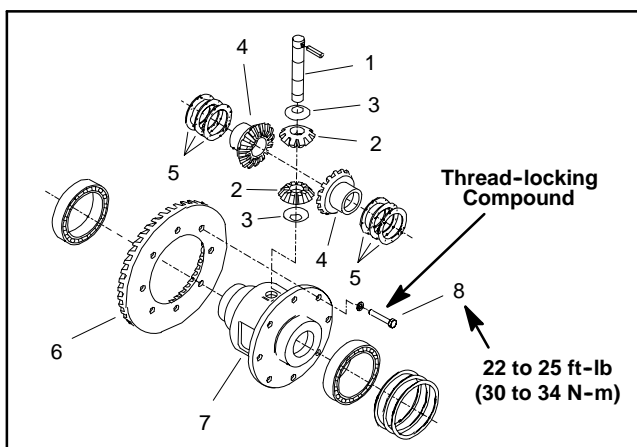

Figure 38
7. Remove the differential pinion shaft, pinion gears and pinion washers. Remove the differential side gears and side gear shims. Remove the ring gear only if it will be replaced (Fig. 38).